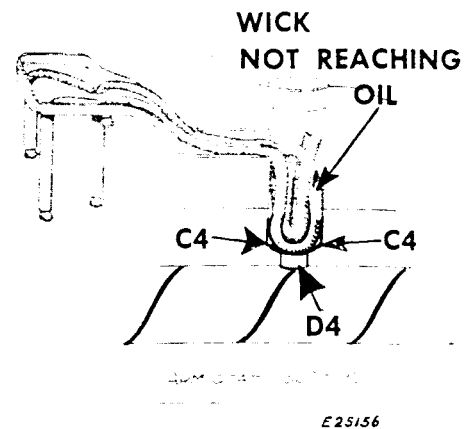

Fig. 58. Incorrect
CAUTION: If the bottom of either oil wick leader is caught on the ledge as shown at **C4**, **Fig. 58**, no oil can be taken up by the wick to be carried to the needle bar link and thread take-up bearing, where it is needed. Make sure that the oil wick leaders are
7. Tighten screw **F4**, **Fig. 58**.